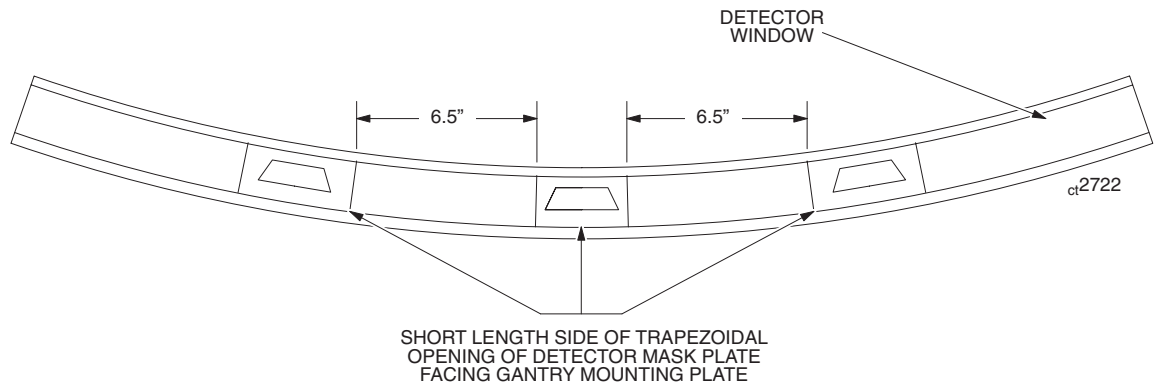

Figure 3-13 Detector Masking Plate Orientation (HIGHLIGHT SYSTEM)
- 2.) Turn OFF the Gantry HVDC (550) enable switch.
- 4.) Refer to Figure 3-13. (Critical for Detector proper alignment)
- 6.) Turn ON the Gantry HVDC (550) enable switch.